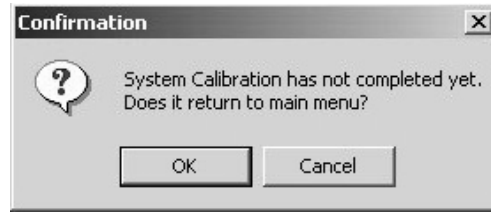

Fig.90
- If the “Cancel” button is clicked or the “Esc” key is pressed during system calibration, the window shown at right (Fig.90) appears. Click the “OK” button to calibrate the system. To continue system calibration, click the “Cancel” button.